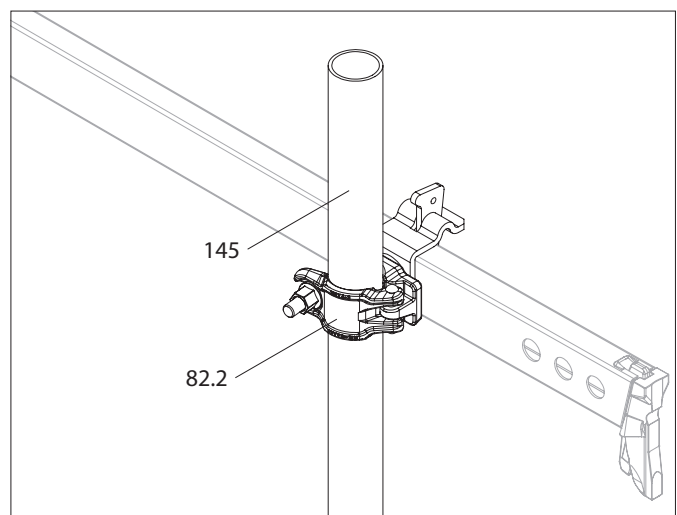

Fig. A10.04c
3. Fit the scaffolding tube (145) in the tube coupling (82.2). (Fig. A10.04c)